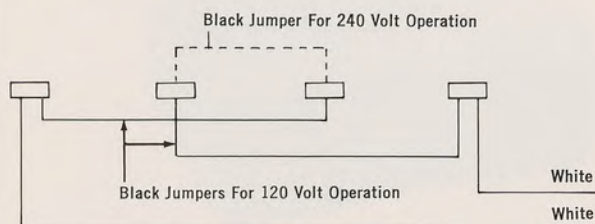

Figure 5. Hookup of Recorder for 120 Volts or 240 Volts
The following procedure and Figure 5 explain the hookup of the recorder for 120 and 240 volt operation:
3. The a.c. terminals are located behind the chart-drive mechanism, on the corner of the recorder main board, Figure 5.
- a. Remove two black jumpers shown in Figure 5.
- b. Replace with single, black jumper for 240 volt operation, Figure 5.
- a. Remove single black jumper shown in Figure 5.
- b. Replace with two black jumpers for 120 volt operation, Figure 5.